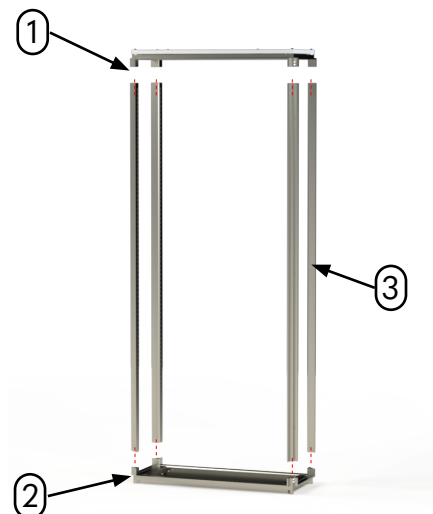

Figure 1
- Insert each upright (Item 3) into its corresponding slot in the base (Fig. 1).